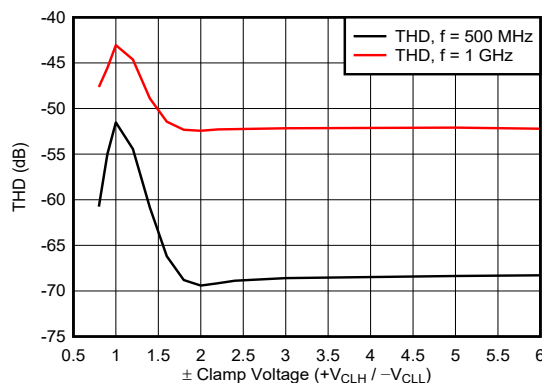

图 8-4. THD vs  $V_{CLH} / V_{CLL}$  for  $V_{OUT} = 1 V_{PP}$
- The output THD of the BUF802 degrades when  $V_{CLH}$  and  $V_{CLL}$  are set close to the expected  $V_{OUT}$  peak value. To prevent signal degradation, maintain at least a 1.5 V difference between the expected peak output voltage and the clamp voltage applied at the CLH and CLL pins. 图 8-4 shows the relation between the absolute clamp voltage value and THD for a 1 VPP output.